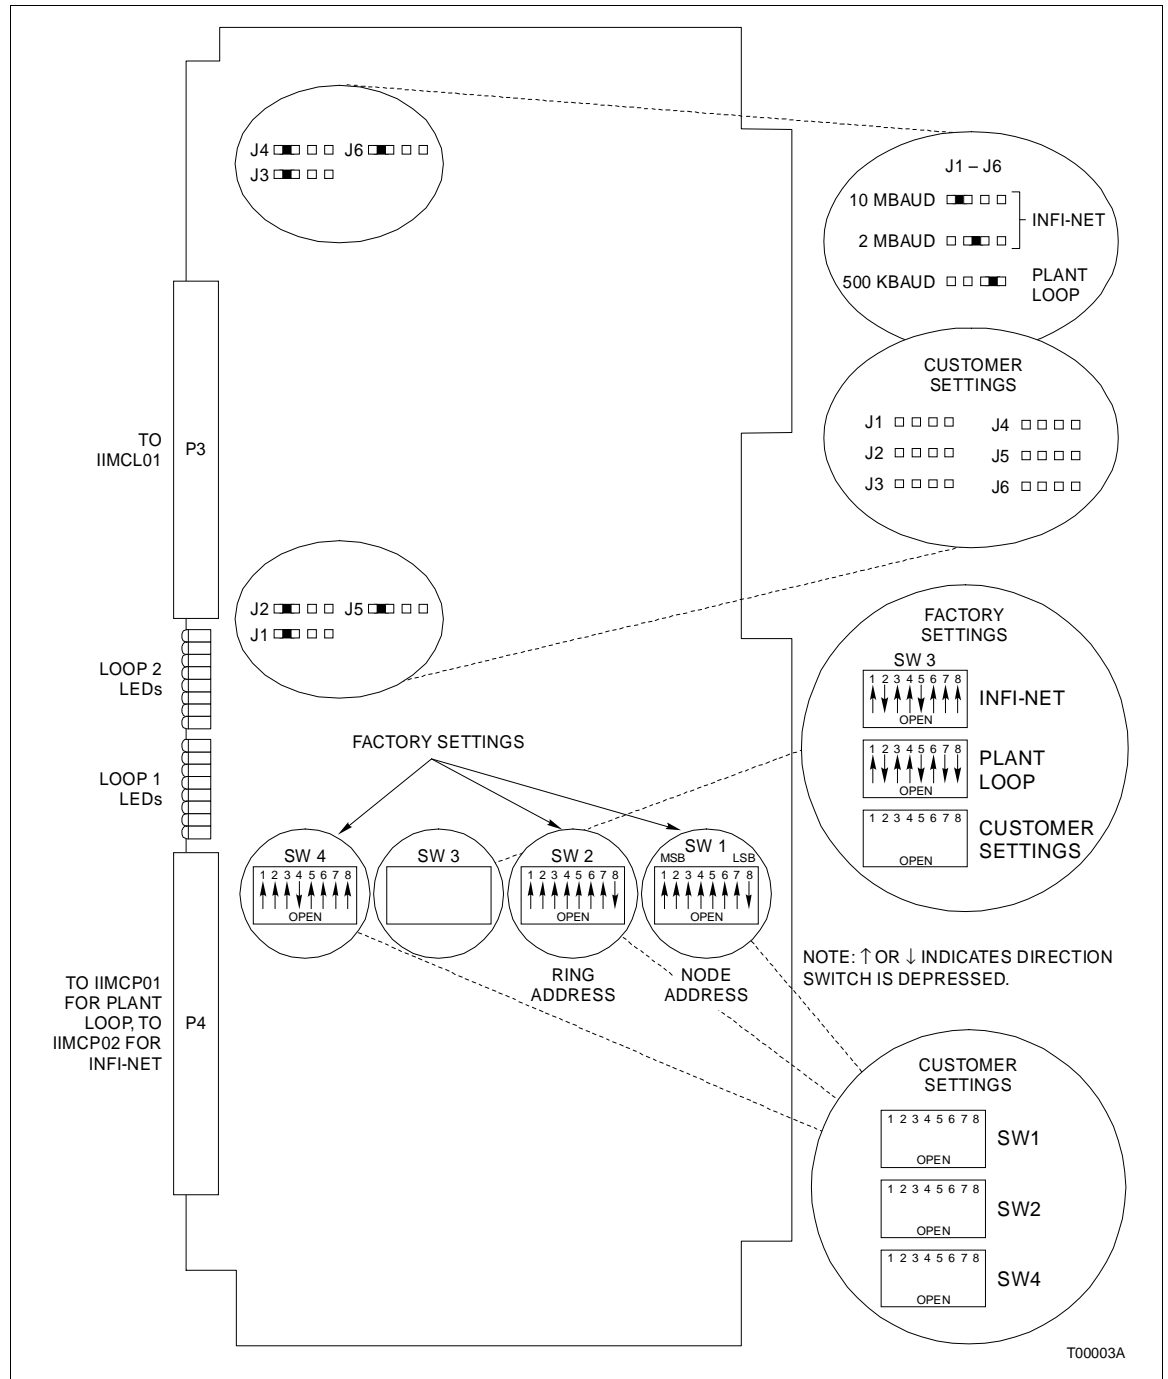

Figure PR33-3. IIMLM01 Module
- 6. Refer to Figure PR33-3 and Table PR33-1 and set the jumpers and switches as desired, filling in the customer settings in Figure PR33-3 and Table PR33-1.
NOTE: The settings shown in Figure PR33-3 and the bold entries in Table PR33-1 indicate factory default settings.